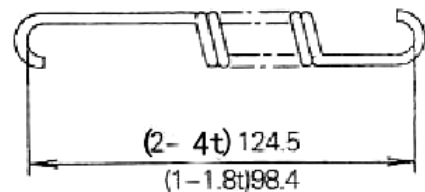

Fig 6-15
(6) Measure the free length and installation load of return spring for brake shoe (Fig 6-15). Refer to Part 7 of Fig 6-2